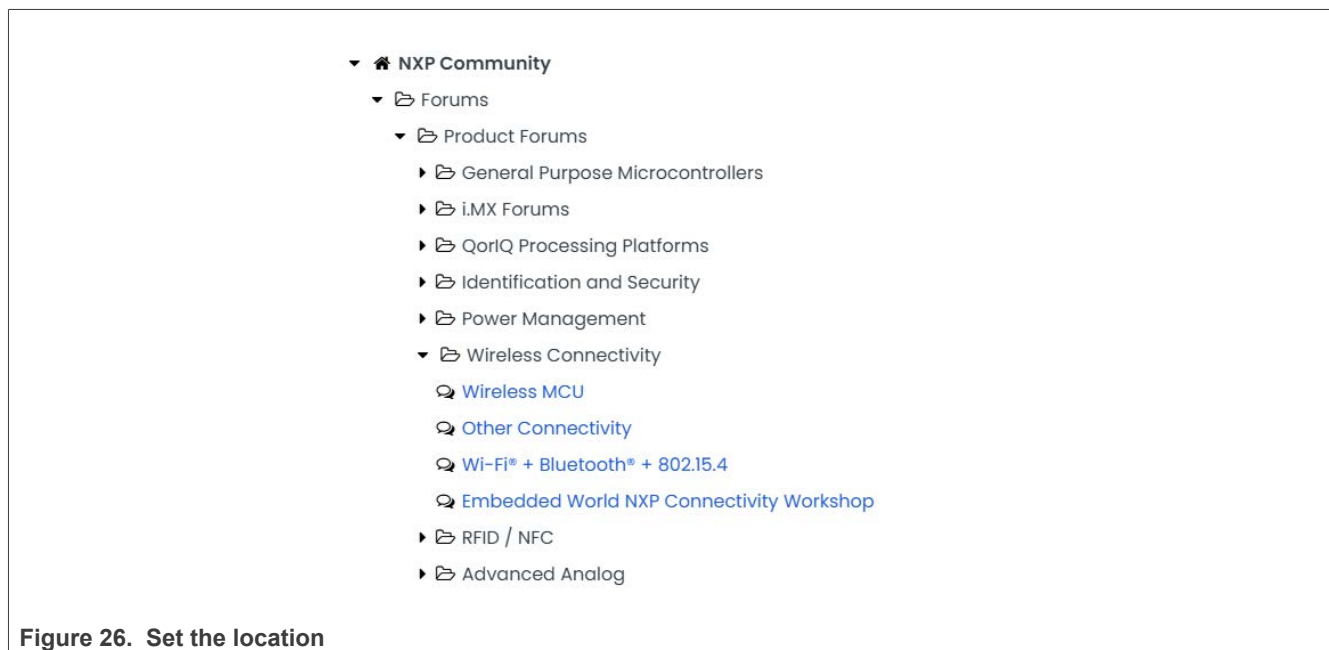

Figure 26. Set the location
Step 5 – Set the location to *NXP community > Forums > Product Forums > Wireless Connectivity > Wi-Fi + Bluetooth + 802.15.4*. (Figure 26).